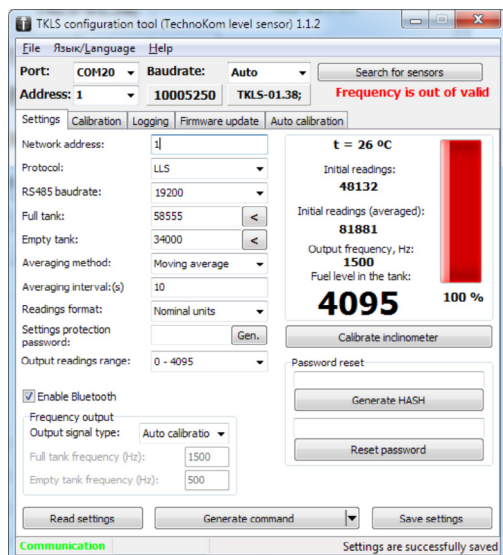

Fig.5.Sensor diagnostics.
To connect the sensor to a PC, use the special adaptor and USB data cable supplied with the sensor (see fig.5).
- connect the 4-pin connector of the USB cable to the 4-pin connector of the adaptor (see fig.5, step 1);
- connect the USB cable to the PC (fig.5, step 2);
- connect the free end of the adaptor (Molex connector) to Connector 1 of the sensor (fig.5, step 3);